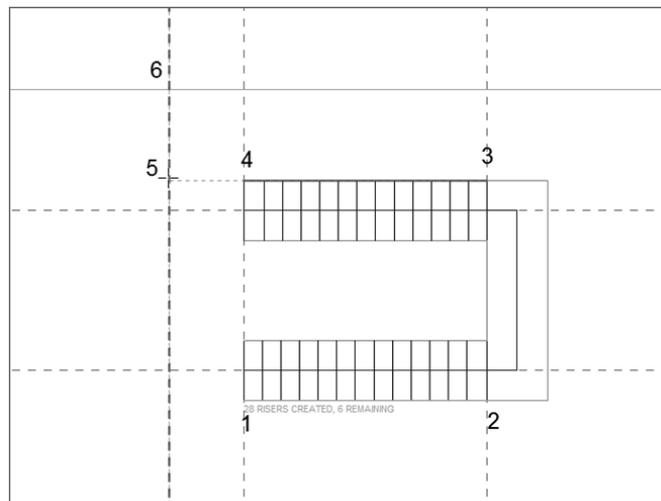

FIGURE 10.64: The stairs in place
7. Verify that your plan looks like Figure 10.64.